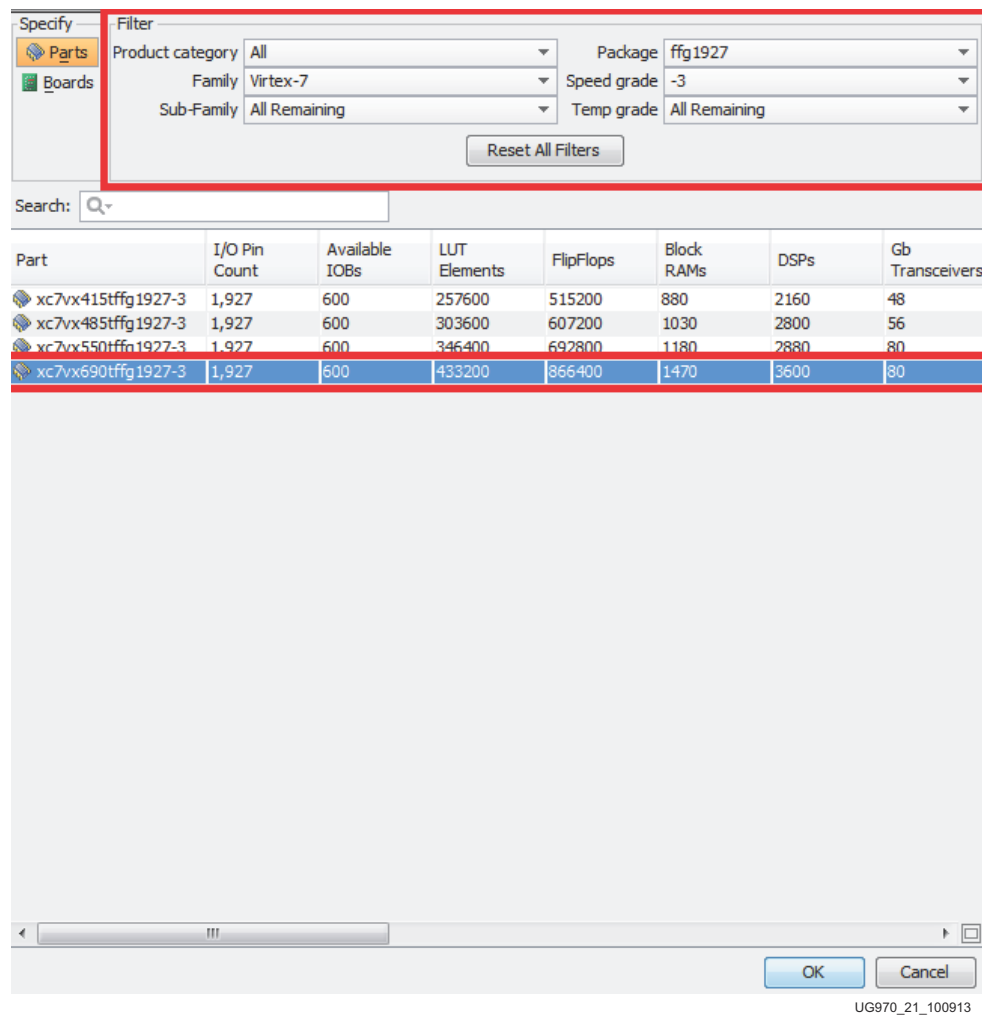

Figure 1-21: Select Device
- In the Manage IP Settings window, select a part by clicking the (...) button next to the **Part** field. A Select Device window pops up. Use the drop-down menu items to narrow the choices. Select the **xc7vx690tffg1927-3** device (Figure 1-21). Click **OK**.